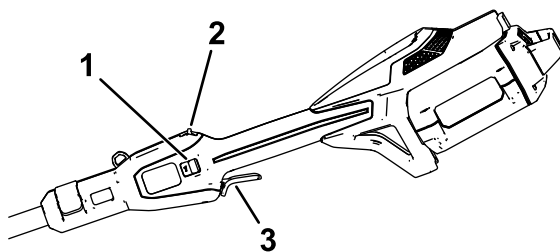

Figure 12
4. To start the trimmer, pull back the lockout switch, then squeeze the variable-speed trigger (Figure 12).